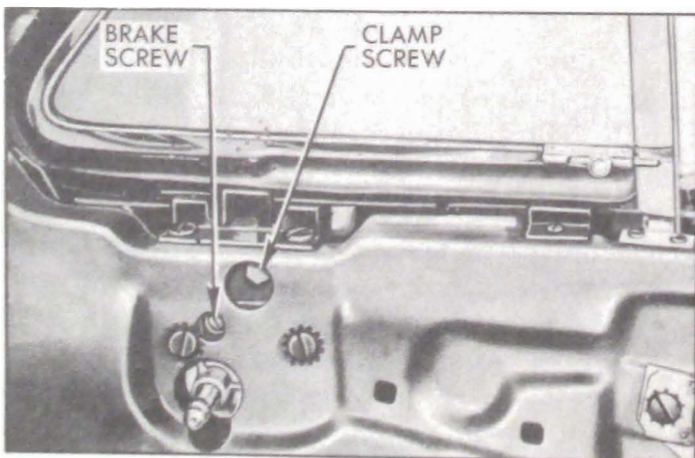

Figure 13-39—Ventilator Regulator Adjustments
Excessive play at ventilator lower pivot may be corrected by tightening the clamp screw which attaches the glass channel T-shaft to ventilator regulator. See figure 13-39.
or friction clamp on the regulator. See figure 13-39.
4. Install regulator by reversing the removal procedure. Adjust the brake screw (fig. 13-39) to provide proper operating tension on regulator before attaching trim pad.